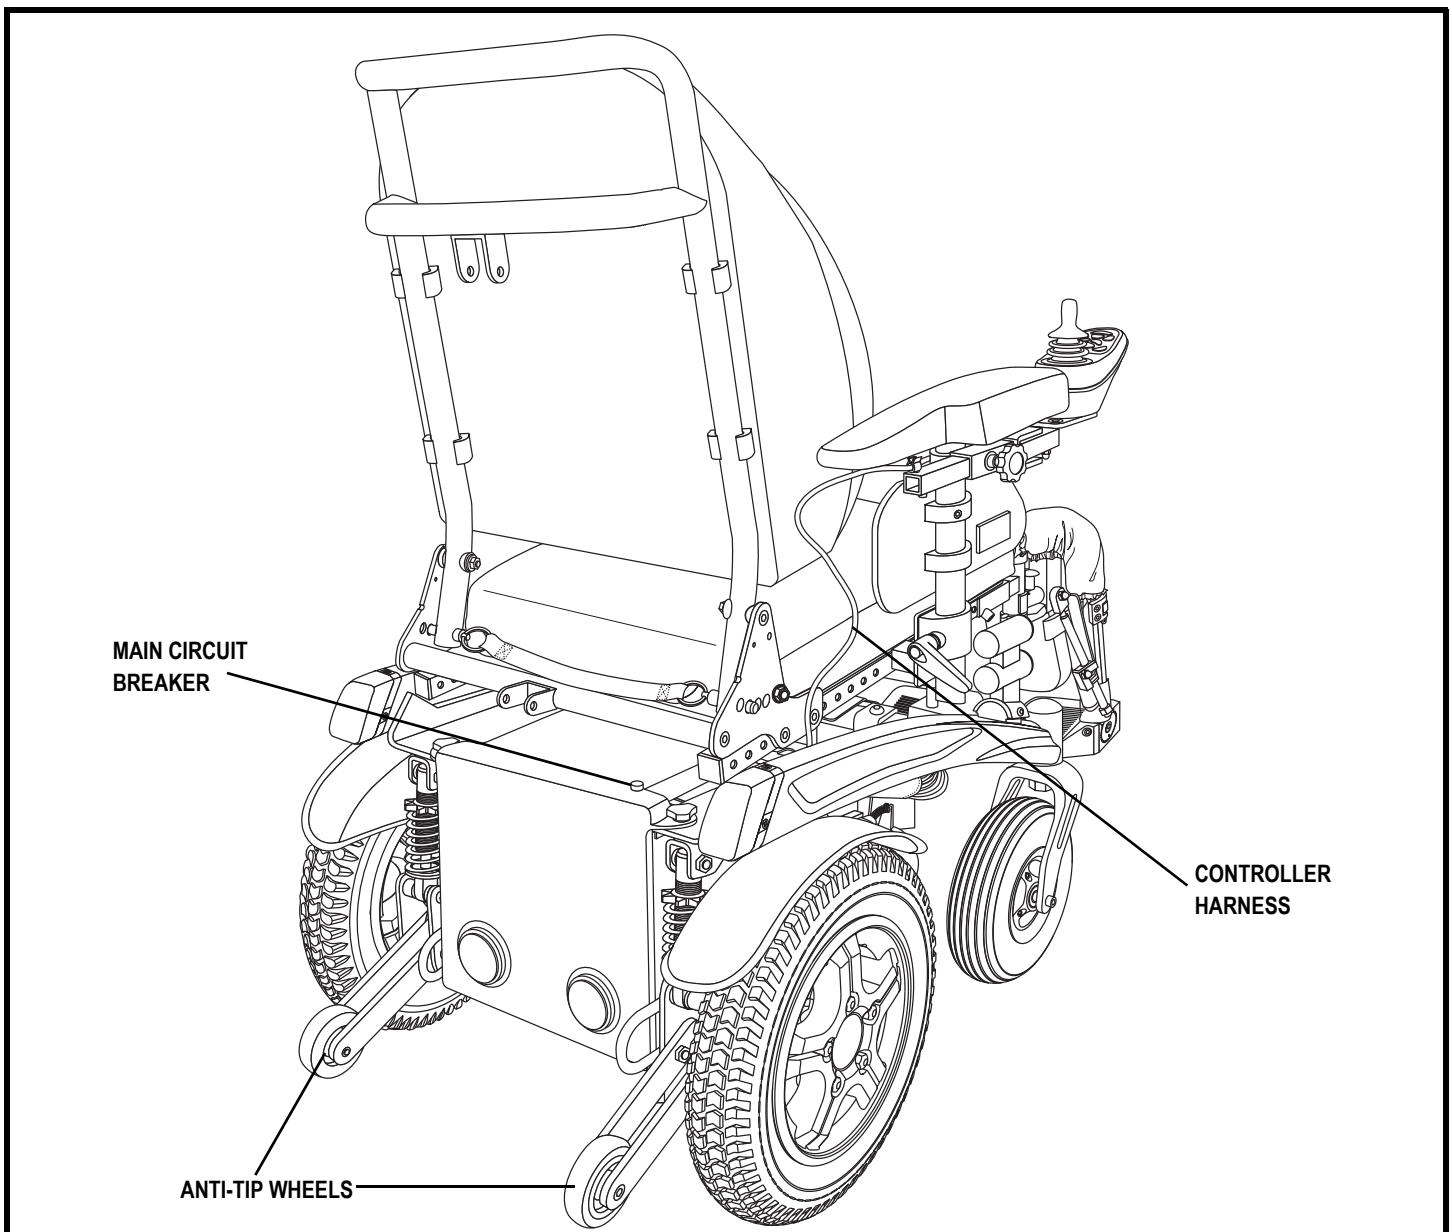

Figure 6. The Fusion Power Base
The electrical components are located on the front of the power base. See figure 6.
**Main Circuit Breaker:** The main circuit breaker is a safety feature built into your power chair. When the batteries and the motors are heavily strained (e.g., from excessive loads), the main circuit breaker trips to prevent damage to the motors and the electronics. If the circuit trips, allow your power chair to “rest” for approximately one minute. Next, push in the circuit breaker button, turn on the controller and continue normal operation. If the main circuit breaker continues to trip repeatedly, contact your Quantum Rehab Dealer. The main circuit breaker is located on the rear of your power chair. See figure 6.